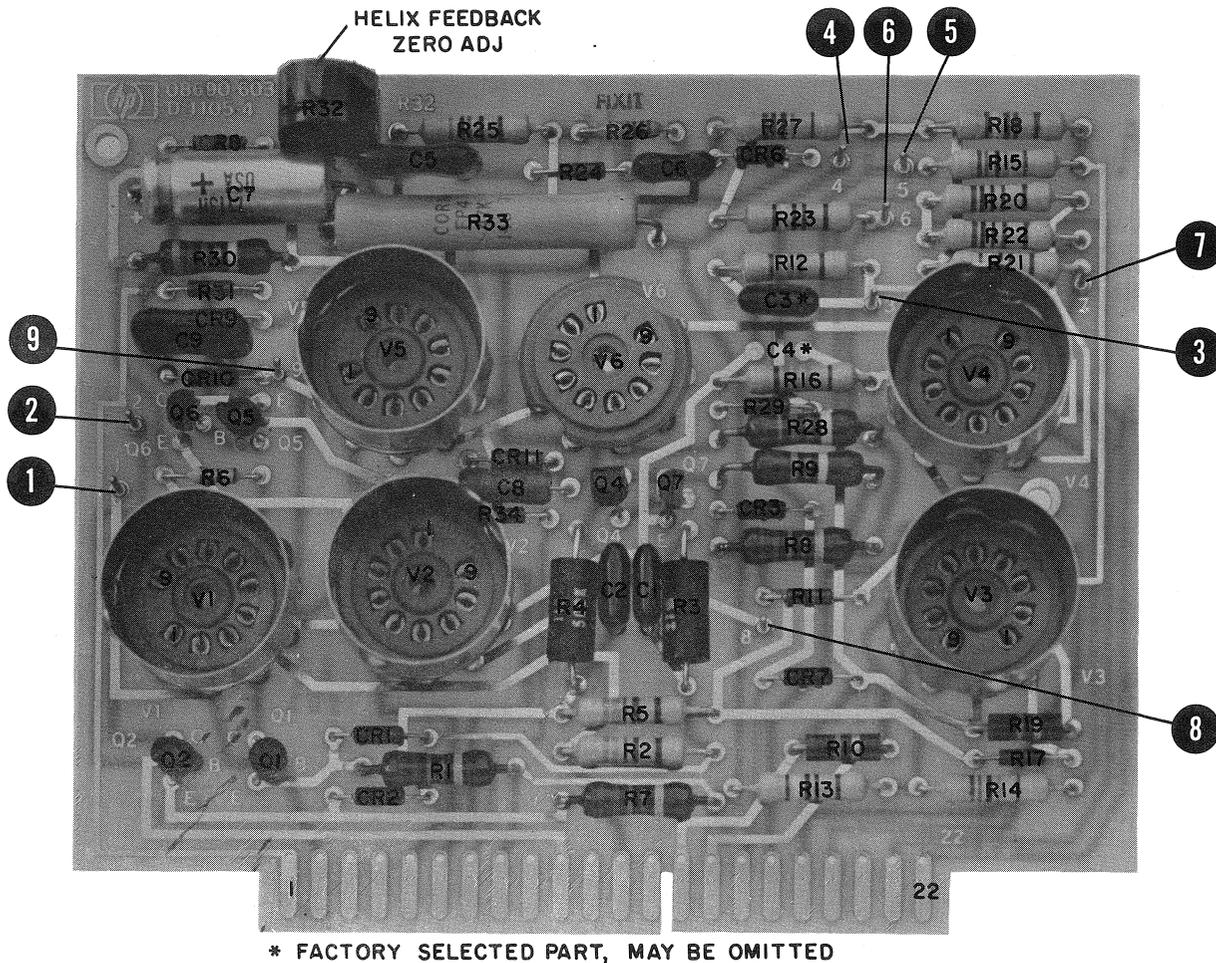

Figure 5. Component Identification, A4 Assembly
9. Remove the A4 Helix Amplifier Board from the 8690B. Using the Component Identification Photo (see Figure 5) locate CR11. Unsolder the anode end of CR11. Solder the cathode of a silicon diode HP Part No. 1901-0033 in the spot where CR11 was removed. Solder the anode of CR11 to the anode of the added diode.
5. Remove the A4 Helix Amplifier Board from the 8690B. Using the Component Identification Guide (see Figure 5) locate CR11. Unsolder the anode end of CR11. Solder the cathode of a silicon diode HP Part No. 1901-0033 in the spot where CR11 was removed. Solder the anode of CR11 to the anode of the added diode.